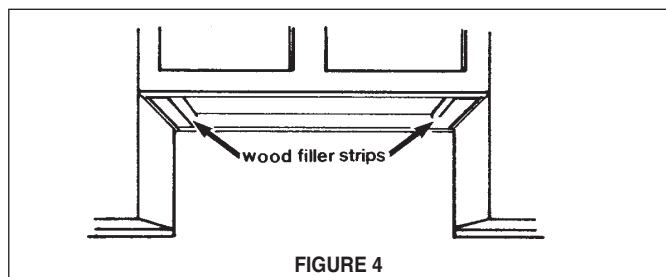

FIGURE 4
3. If the cabinet bottom is recessed, wood blocks need to be installed to insure proper alignment with the cabinet bottom. Wood blocks should be flush or recessed $1/16"$ to $1/8"$ within the cabinet bottom as indicated in **FIGURE 4**.